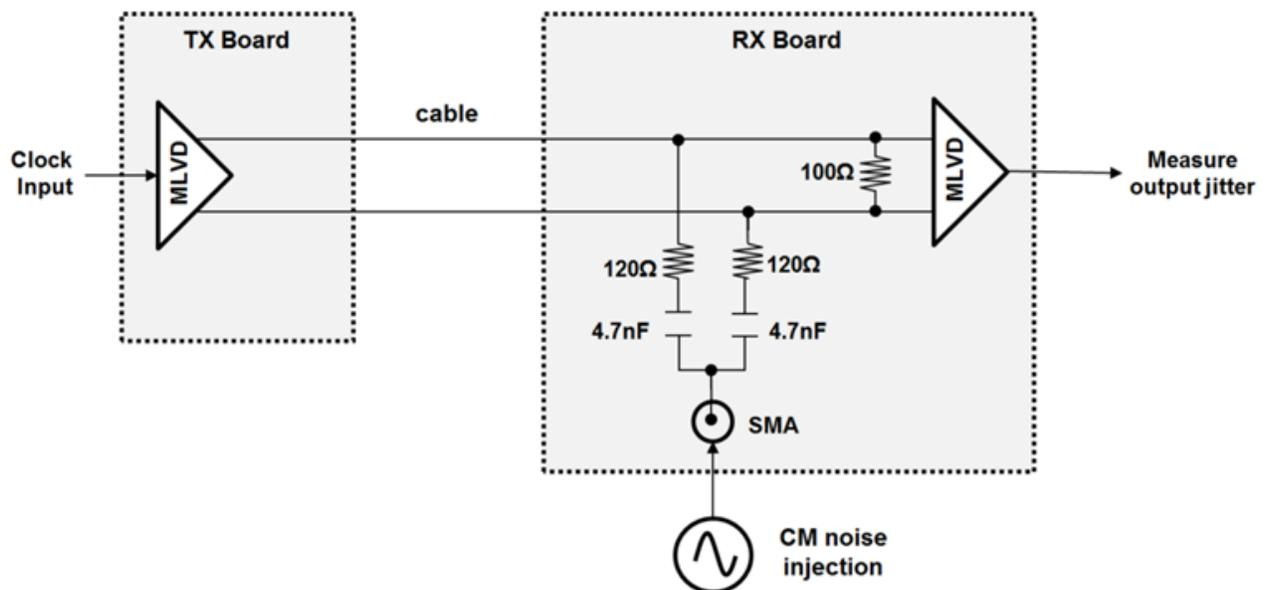
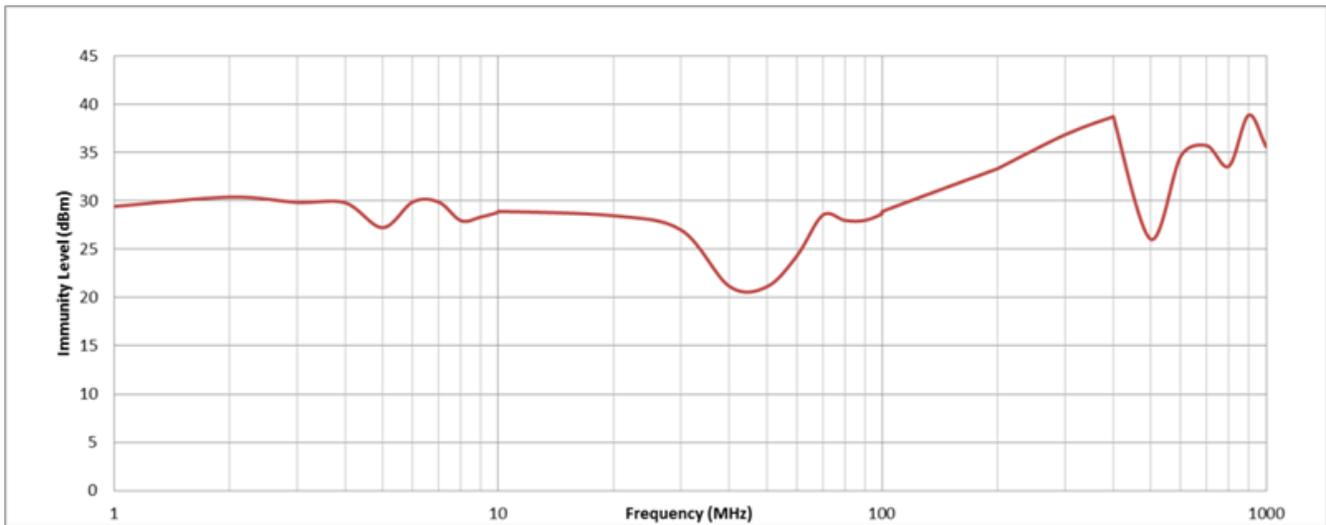

Figure 1. Noise Immunity Test Setup
Figure 2. Noise Immunity Level over Frequency
Noise immunity is measured by connecting an MLVDS driver to an MLVDS receiver in point-to-point mode and measuring the noise power in decibel-milliwatts over a frequency range. Figure 1 shows a noise immunity measurement test setup with TI's SN65MLVD206B and SN65MLVD206B transceivers connected in a point-to-point topology. Note the 100Ω termination resistor placed between the LVDS bus. A coupling network with a 120Ω resistor and 4.7nF capacitor is used for common-mode (CM) noise injection. A clock signal input to the driver measures the impact of injected CM noise. After injecting CM noise into the LVDS bus through the resistor-capacitor (RC) coupling network, you can measure the subsequent output jitter. The measured output jitter over frequency translates to the noise immunity in decibel-milliwatts, as shown in Figure 2.